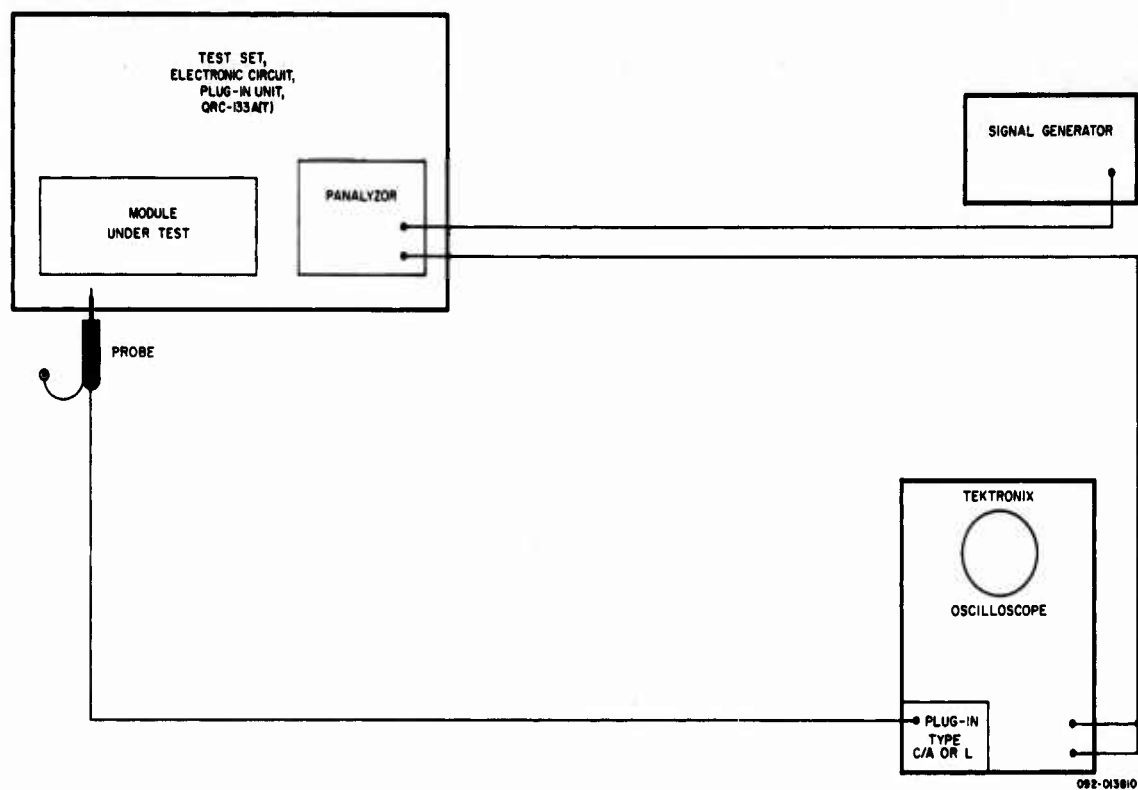
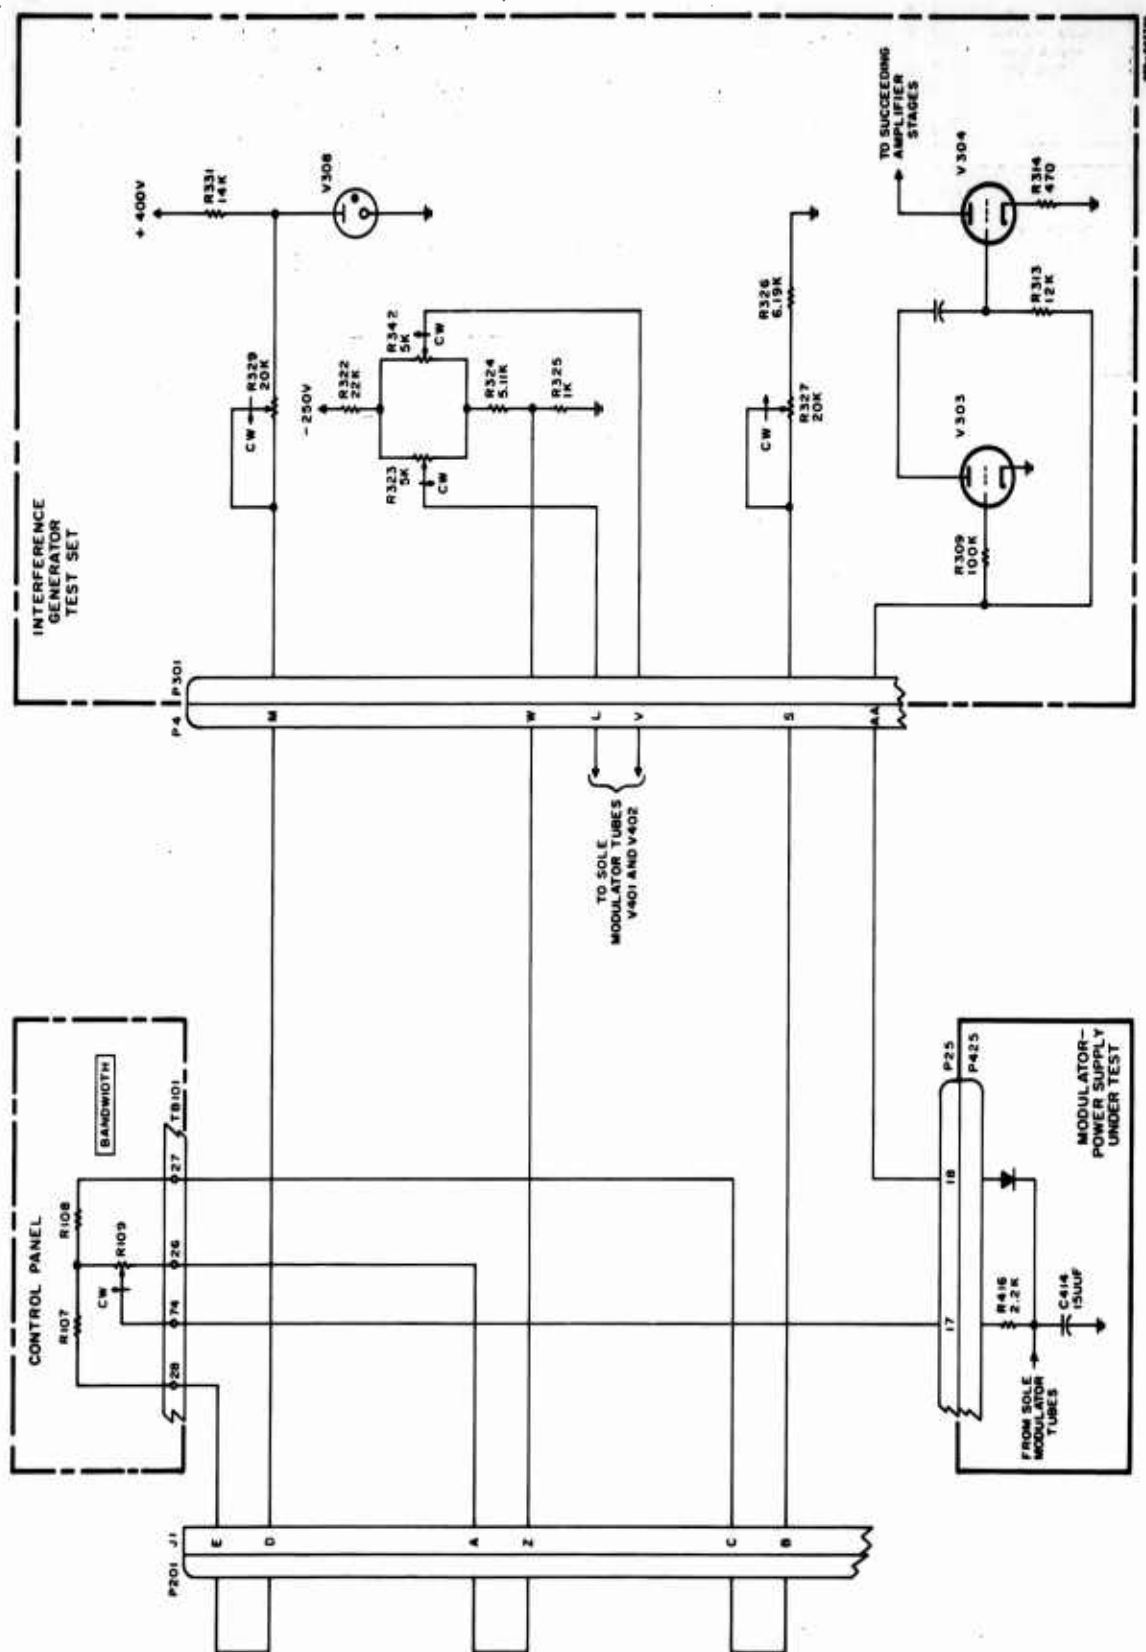
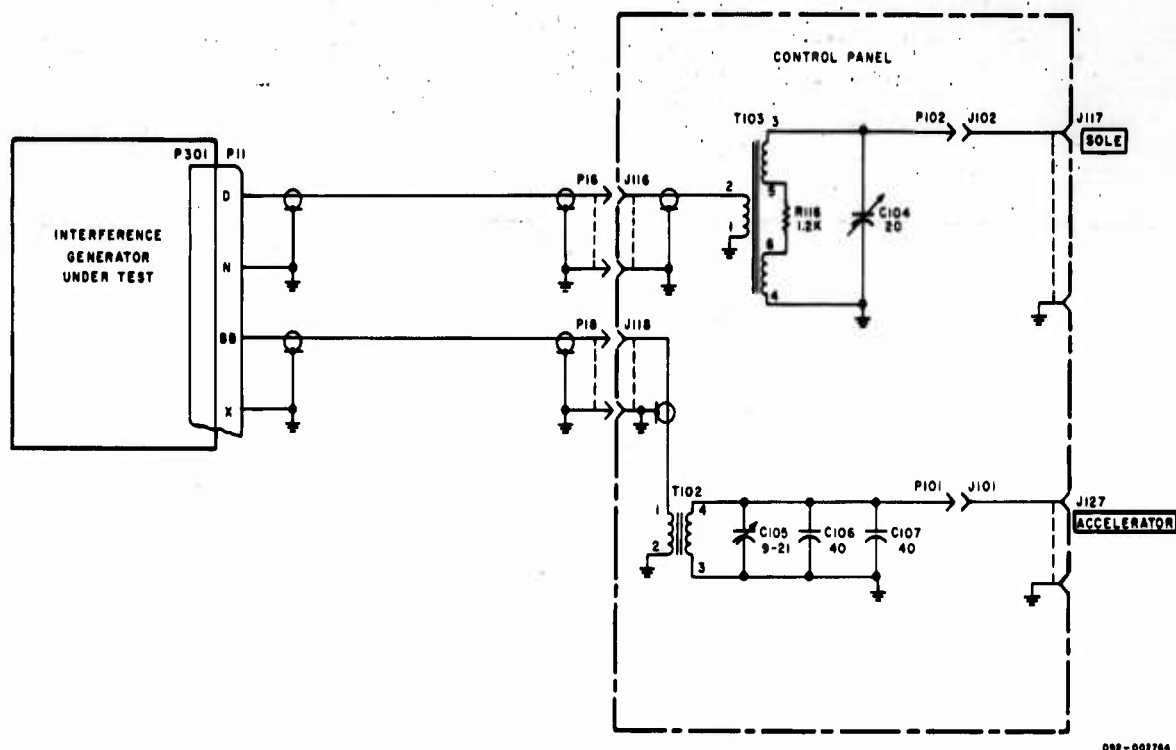

Figure 1-13. Sole and Accelerator Noise Signal Test Setup.
Figure 1-14. Bandwidth Test Control Circuit.
Figure 1-19. Sole and Accelerator Noise Output Test Circuit.
load that simulates the loading effect of the BWO sole circuit. It is part of the sole modulator test fixture. The sole modulator test fixture has the functions of providing the proper environment for the sole modulator and permitting operational adjustments of capacitors C409 and C413 of the sole modulator. The output developed across the load is used as the input to the oscilloscope. Refer to figure 1-13 for the noise signal test setup.
1-82. BANDWIDTH TEST. The BANDWIDTH control R109 simulates the control function of the RF BANDWIDTH control on the control-indicator of the Barrage Jammer QRC-133A (T) system. This control is used when testing either a modulator-power supply module or an interference generator module and allows checking the response of either module to a change in the setting of the BANDWIDTH control. When the BANDWIDTH control is changed, the grid bias on two amplifier stages (V303 and V304) in the sole noise channel changes accordingly. A change in the grid bias affects the output of the sole noise channel. This output may be observed on the oscilloscope and on the Panalyzer. Figure 1-13 illustrates the test setup for observing this output. The change in output is observed as a change in amplitude. Rotating R109 clockwise increases the amplitude, counterclockwise decreases amplitude. Figure 1-14 illustrates the bandwidth control circuit when a modulator-power supply module is under test. When an interference generator module is being tested, the bandwidth control circuit is similar to the circuit shown in figure 1-14. Figure 1-12 shows the circuit for checking the sole noise channel output of the modulator-power supply module under test. The output is taken from test points A and B of the sole modulator load. Figure 1-19 shows the circuit for checking the sole noise channel output of the interference generator module under test. The output is taken from the SOLE connector J117.
1-89. SPECTRUM ANALYSIS OF NOISE SIGNALS. Figure 1-19 is a simplified schematic diagram of the circuit used for testing and aligning the sole noise output of the interference generator module under test. The signal is fed through a low capacity
cable to the primary of transformer T103, the sole modulator input transformer. Resistor R116, capacitor C104, and the distributed circuit capacity simulate the loading effect of modulator tubes V401 and V402. Similarly the accelerator noise output is fed through a low capacity cable to the primary of T102, the accelerator modulator transformer. The output of the sole load is available at J117 and the output of the accelerator load is available at J127. See figure 1-13 for the noise signal test setup. The interference generator is mounted so that the underside of the chassis is available for intermediate noise checks in either the sole or accelerator noise channels.